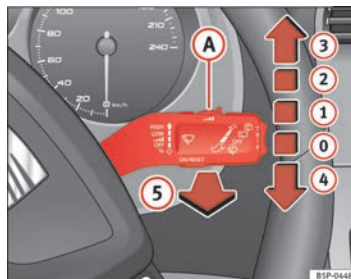

Fig. 85 Windscreen wiper and windscreen wash lever
The windscreen wiper lever ⇒ fig. 85 has the following positions:
- The next speed down will automatically be selected if speed ⇒ page 122, fig. 85 **2** or **3** is selected when the vehicle stops. The set speed will be resumed when the vehicle starts again